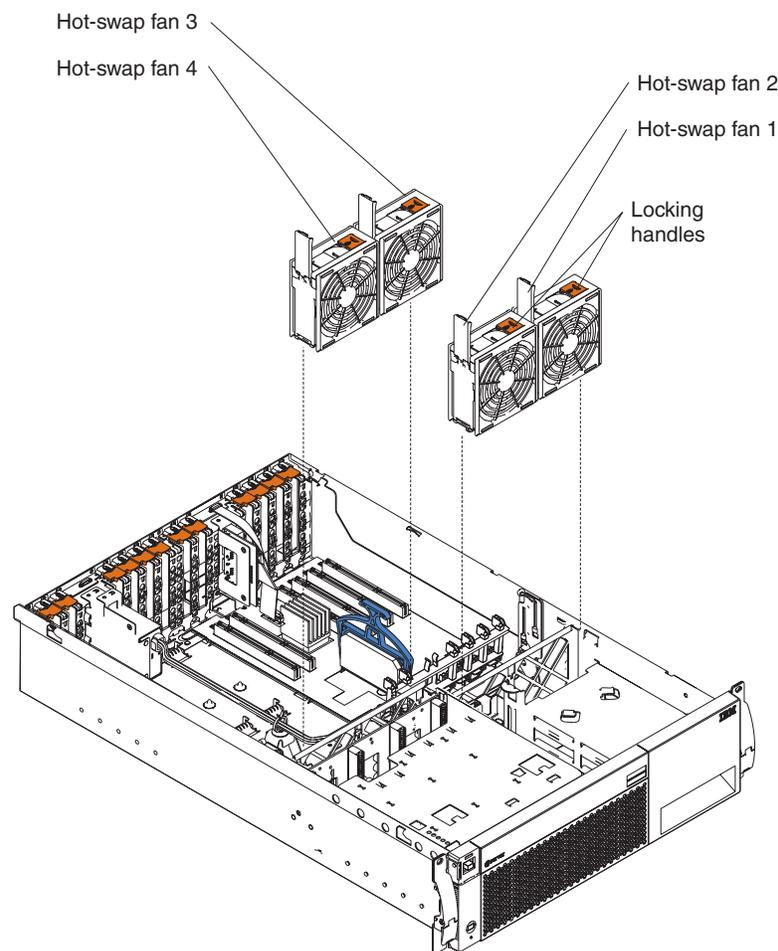

Figure 23. Replacing a hot-swap fan
3. Lift up the free end of the fan-locking handle (see Figure 23) and pull upward on the handle to lift the fan out of the enclosure.